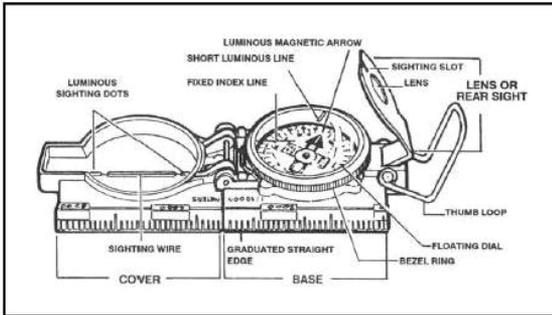

Figure 071-329-1003-1. Lensatic compass
1. Inspect the compass (figure 071-329-1003-1).